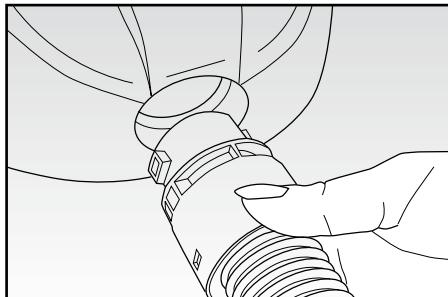

Fig. 2
- Fit the suction device (I) into the air inlet opening (C) and press it in until it clicks into place. To remove it, it is necessary to press the two release buttons (L) at the same time and to pull it out (Fig. 2).